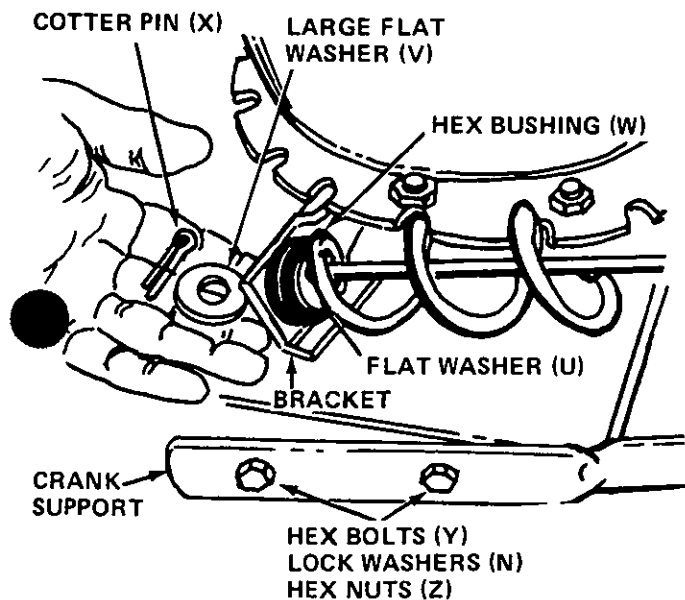

FIGURE 9
17. Attach the crank support to the blower housing using two hex bolts (Y), two lock washers (N) and two hex nuts (Z). A 9/16" boxed or open end wrench is required. See figure 9.
18. Place hex bushing (W) into bracket beside the chute assembly. Position the hex bushing so the hole in the bushing is close to the chute assembly. See figure 9.
19. Place flat washer (U) on the end of the chute crank. Insert the chute crank into the hole in the hex bushing so that the spiral on the chute crank engages the teeth on the chute assembly. Place large flat washer (V) on the end of the chute crank. Insert cotter pin (X) into hole in the end of chute crank. Secure by bending the ends of cotter pin in opposite directions.